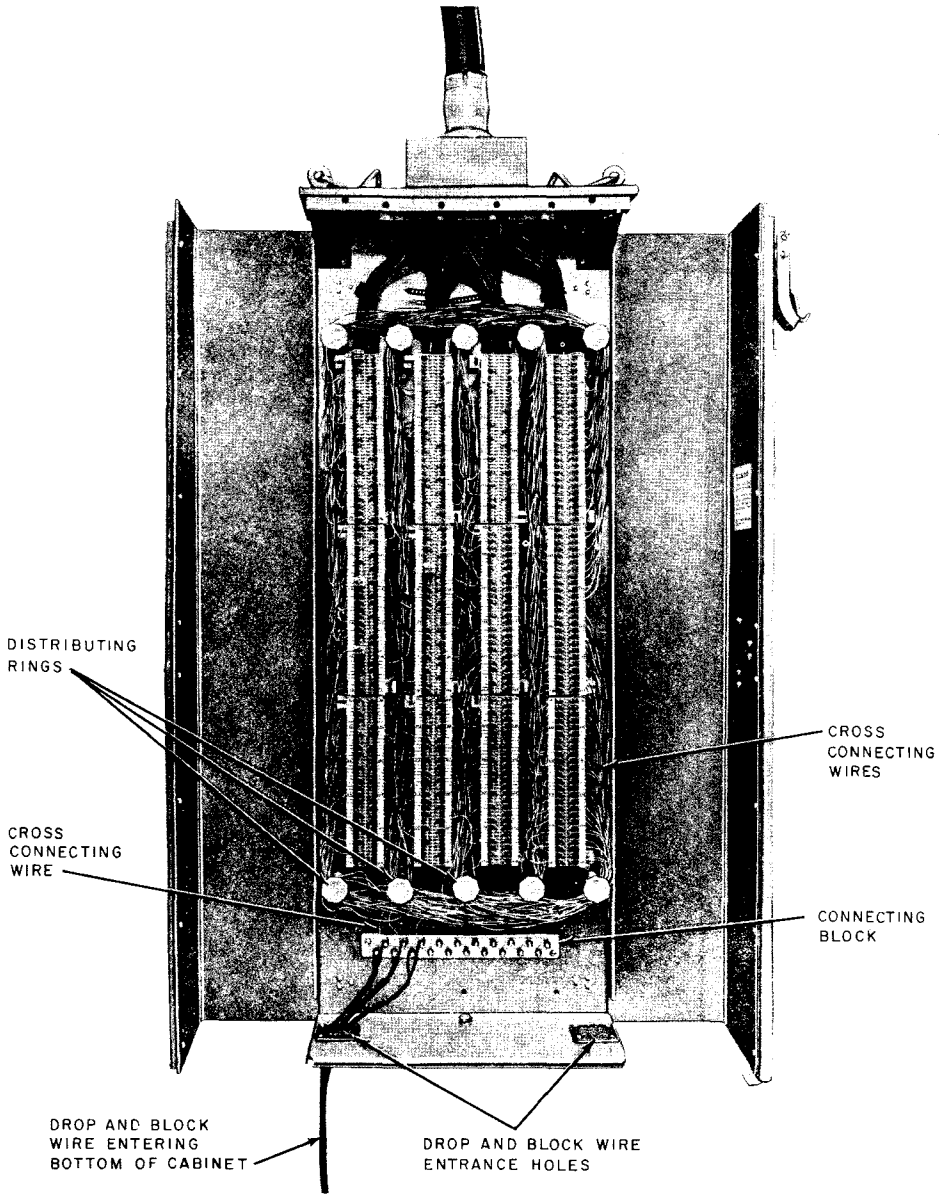

Fig. 15—Terminating Drop Wire—101-Type Cable Terminal
- (2) Where a drop wire is to be terminated on the right side of the terminal chamber, run the wire down the right side of the pole behind the terminal, through the two  $\bullet$ drive ties $\bullet$  below the terminal, and into the wire entrance holes on the bottom left of the terminal box. Where the drop wire is to be terminated on the left side of the terminal chamber, run the wire down the left side of the pole behind the terminal, through the two  $\bullet$ drive ties $\bullet$  below the terminal, and into the wire entrance holes on the bottom right of the terminal box.
- (3) Install cross-connecting wire between the feeder pair binding posts and a vacant drop wire binding post. Then terminate the drop wire as shown in Fig. 15 and 16.